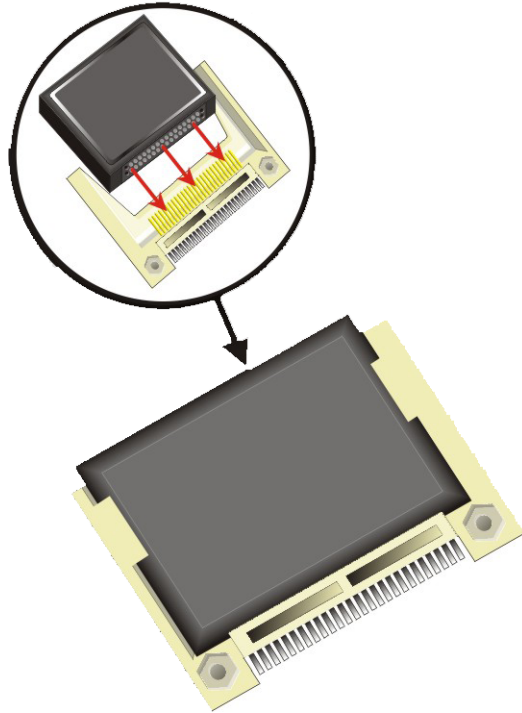

Figure 5-1: CF Card Installation
- Step 3: Insert the CF card.** Gently insert the CF card into the socket making sure the socket pins are properly inserted into the socket. See **Figure 5-1**.